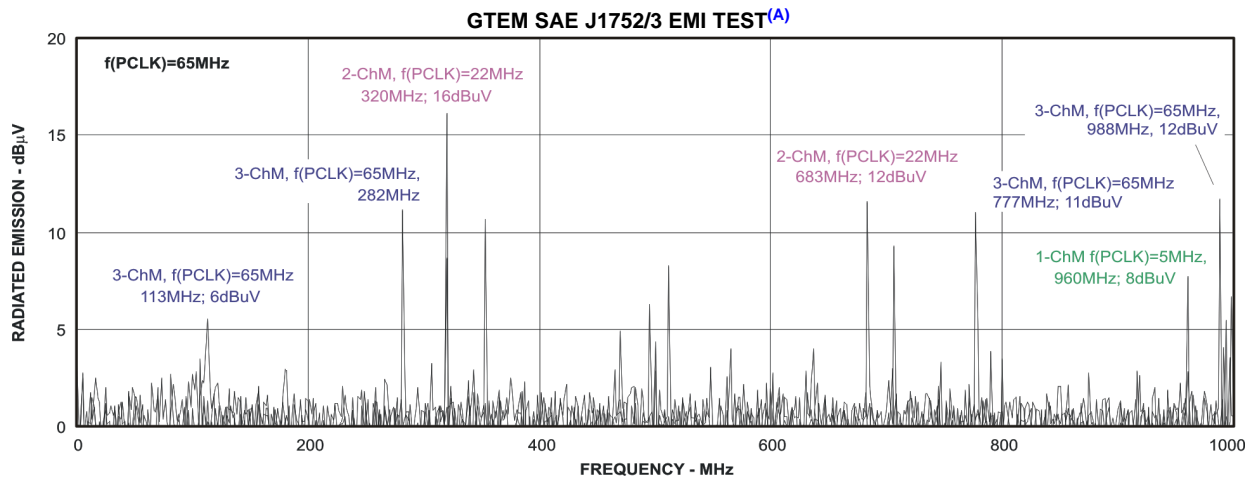

Figure 37.
- A. Figure 37 shows a superimposed image of three EMI measurements with the device operating at  $f(\text{PCLK}) = 5 \text{ MHz}$ ,  $f(\text{PCLK}) = 22 \text{ MHz}$ , and  $f(\text{PCLK}) = 65 \text{ MHz}$ . This excellent EMI performance meets the system requirements of dense, mobile designs with a noise floor of  $\sim 2 \text{ dB}\mu\text{V}$  ( $-105 \text{ dBm}$ ) and all spurs being smaller than  $16 \text{ dB}\mu\text{V}$  ( $-101 \text{ dBm}$ ). The test was performed in compliance with the SAE J1752/3 EMI test guidelines.